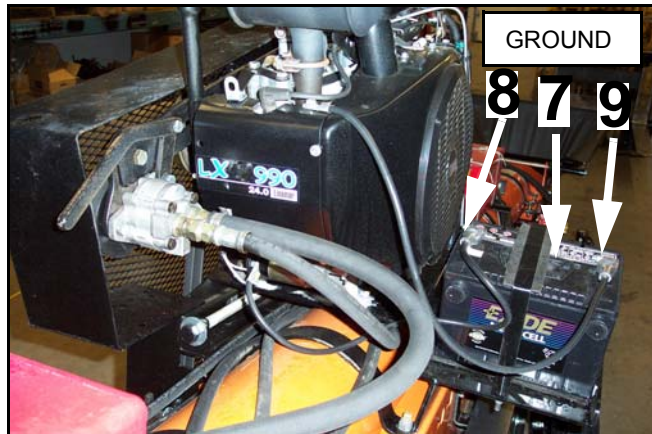

Figure 3.44
5. Attach a wire from the electric clutch to the motor ground (Figure 3.44).
10. Connect battery cables from motor to battery, noting the orientation in Figure 3.44.